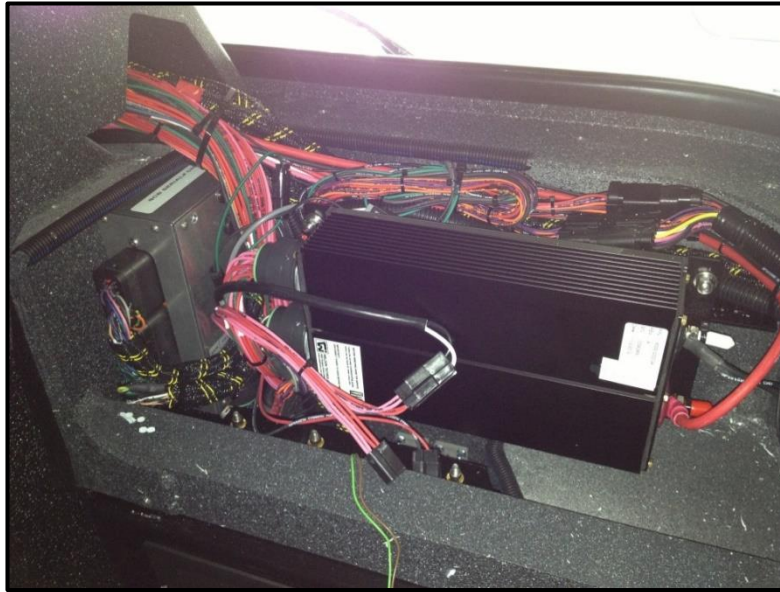

Figure 6.1
9. Once RCM is installed, excess/service loop of harnesses must be zip tied back in place so any remaining components may be installed. Once this has occurred re-install any electrical device(s) in their mounting positions as shown below in *Figure 6.1*.